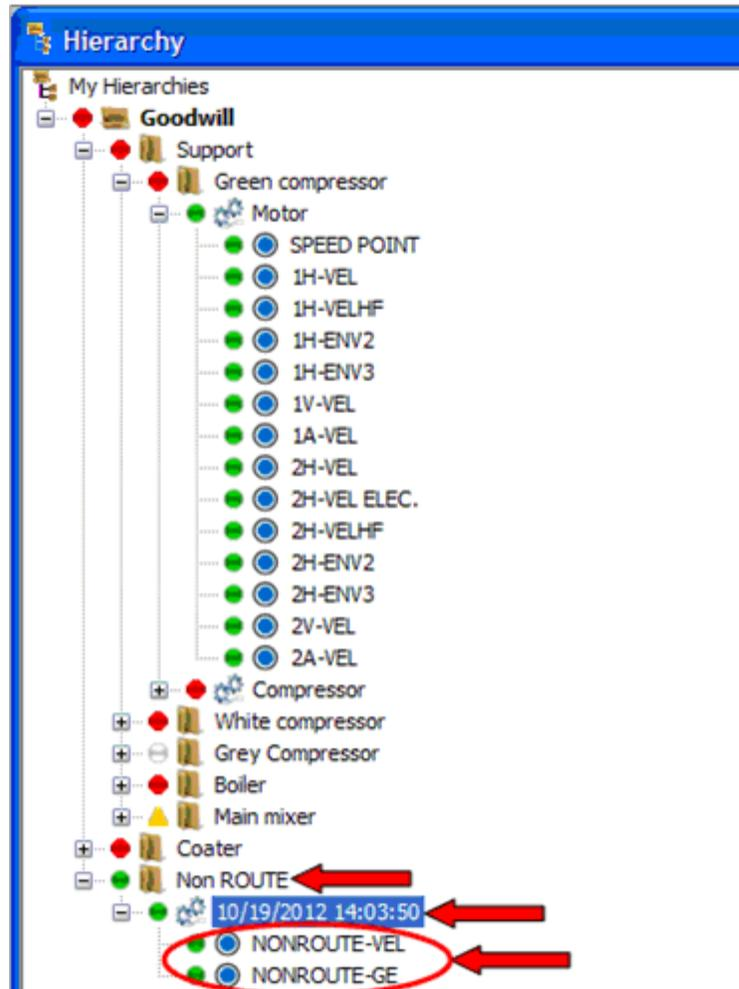

Figure 3. NONROUTE data uploaded into hierarchy
- After the NONROUTE measurements have been successfully uploaded, a **Non ROUTE** Set will be added, with the **Date/Time Machine** from when the brute force upload was done. The Microlog's saved NONROUTE measurements will be filed under this **Date/Time** Machine. [Figure 3]